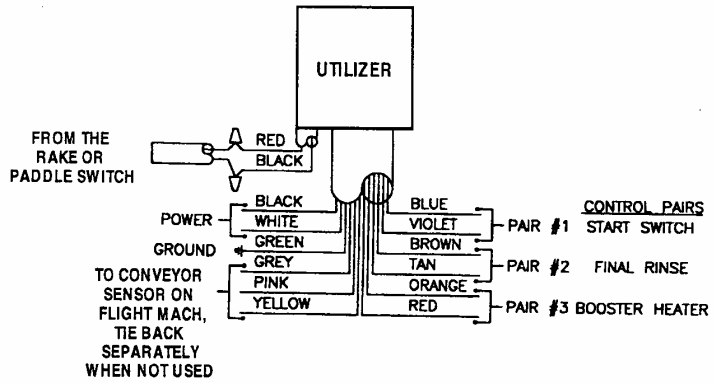

Figure 5. Utilizer III Wiring
- If the dishmachine's power source is rated at 440-480 Volts, the dishmachine will have a transformer of its own which reduces this voltage to 115, 208 or 230 Volts for the operation of the dishmachine controls. Use a voltmeter to measure the voltage and follow the steps as indicated above. See Figure 5.
1. Check the dishmachine voltage. Make sure the Utilizer III wiring matches (see Figure 5).